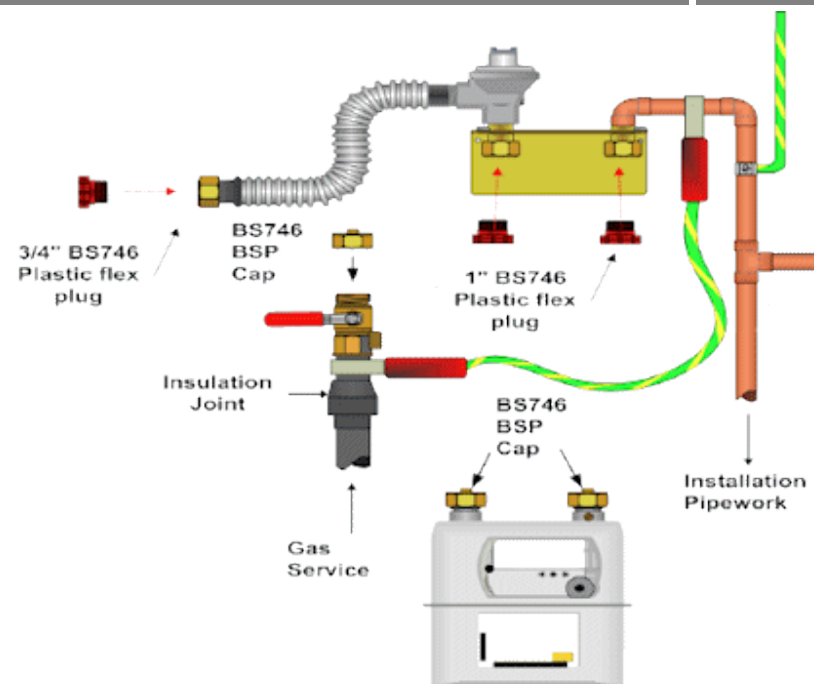

Figure O5 – Meter removal
13. The completion of the upstream operation may necessitate the removal of the gas meter to prevent damage or allow better access to the ECV. In these instances, the meter can be removed and immediately capped (see Figure O5), and carefully placed in a secure, well ventilated area. The meter union must also be plugged with appropriate fittings see Table O1.